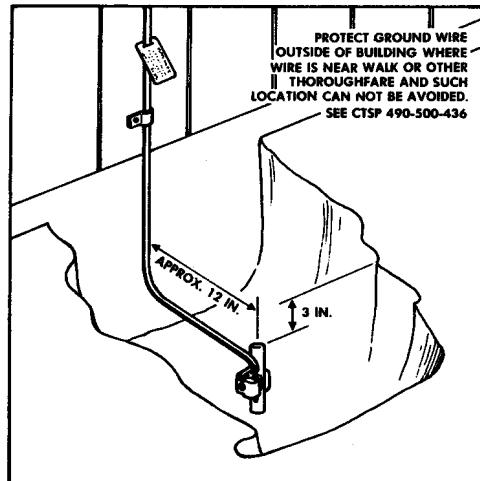

FIGURE 32. Ground Installation Near Wall
- c. Approximately 12 inches from the outside wall. See Figure 32.
- f. Drive the ground rods until the top of the rod is approximately 3 inches below ground level. See Figures 32 and 33. Increase the depth where damage from digging is possible.